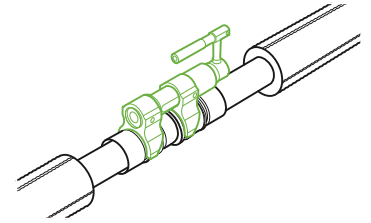

Fig. B10.3.11
14. Assemble the press tool with the appropriate press jaws (Fig. B10.3.11).